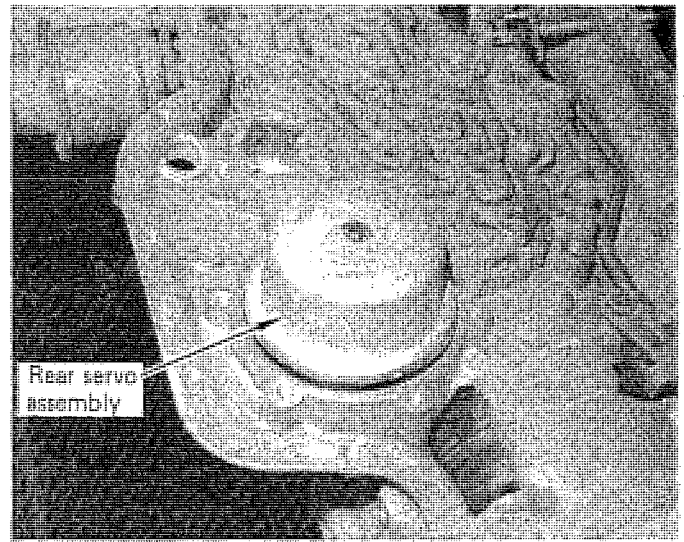

FIGURE 51
STEP 23. Lubricate piston seal with automatic transmission fluid. Install rear servo assembly into transmission case. (See Fig. 51) Install aluminum servo cover gasket in place. Install servo cover and six bolts and draw the bolts down slowly to seat the cover. Tighten bolts to 18 to 20-ft. lbs.